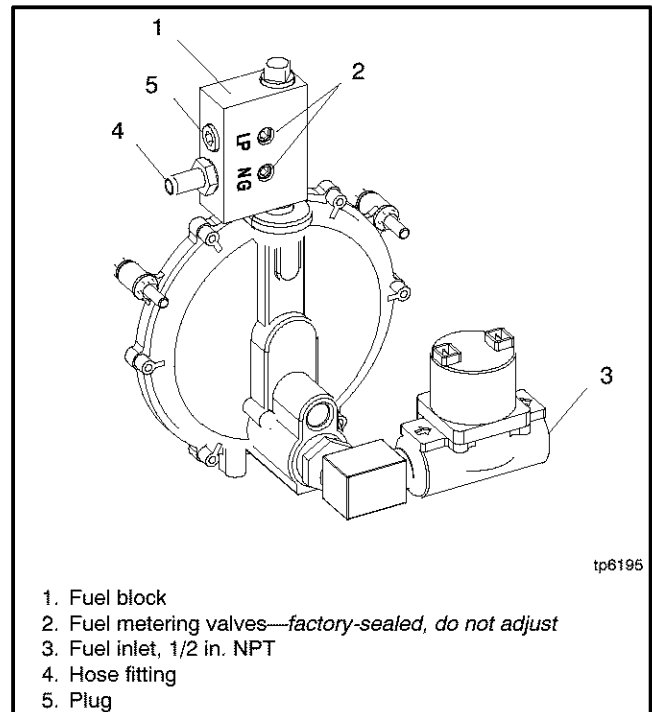

Figure 6-11 Fuel Block Connections, Natural Gas System Shown
5. Remove the hose clamp and fuel hose from the hose fitting in the fuel block. See Figure 6-11.
6. Remove the hose fitting from the natural gas outlet port in the fuel block. See Figure 6-11.
7. Remove the plug from the LP port in the fuel block. See Figure 6-11. Clean the plug with a dry cloth or brush, apply fresh pipe sealant, and install the plug into the natural gas outlet port.